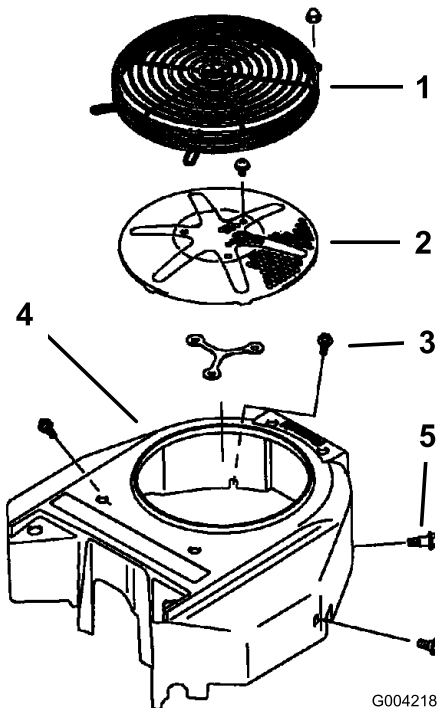

Figure 79
Before each use, remove any buildup of grass, dirt, or other debris from the engine screen. This helps ensure adequate cooling, correct the engine speed, and reduces the possibility of overheating and mechanical damage to the engine (Figure 79).
3. Remove the air-intake screen, the recoil starter, and the fan housing (Figure 79).
5. Install the air-intake screen, the recoil starter, and the fan housing (Figure 79).